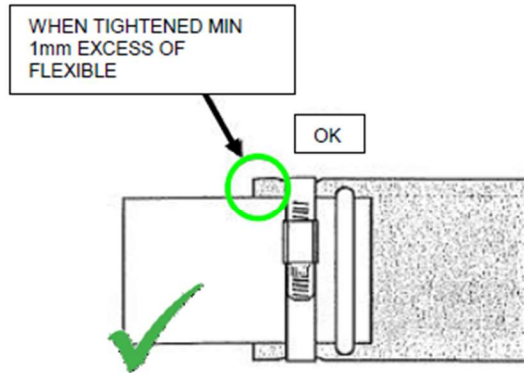

Figure 4
4.5 Minimum Excess of Flexible . (see Figure 4)